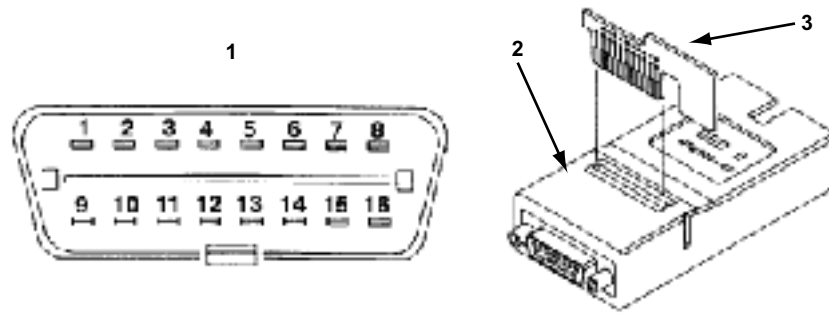

Figure 9-3 OBD-II DLC and adapter
- Use the OBD-II adapter with the specified Personality Key™ device (Figure 9-3 on page 97).